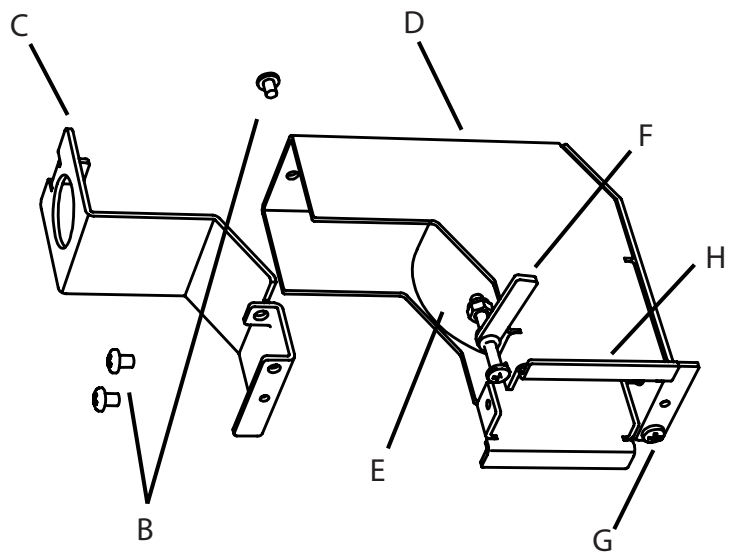

Fig. 1
3. Cut an opening in the mounting surface (minimum 3/8" thick) that measures 1.5" wide by 2.75" high. (Fig. 1)
4. Pull 1/2 trade size flexible metal conduit or building cable (A) through the opening. (Fig. 1)
5. Remove the three Phillips screws (B) and separate the Minibox into upper (C) and lower (D) halves. (Fig. 1)
6. Remove the knockout tab from the upper half (C) and attach the cable/conduit (A) to the knockout opening using appropriate connectors (Note: Cable/conduit and connectors not included). (Fig. 1)
- d. **For 60W and 75W unhooused transformers only:** Carefully place connections and transformer (E) in lower half (D), with the connections in the section near the knockout. (Fig. 1)
9. Reattach upper (C) and lower (D) halves by installing the three Phillips screws (B) removed previously. (Fig. 1)